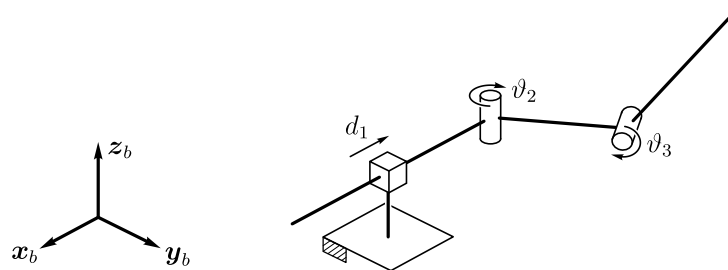

Figure 1: Stadium-toroidal manipulator.
1. Consider the robotic manipulator illustrated in Figure 1.